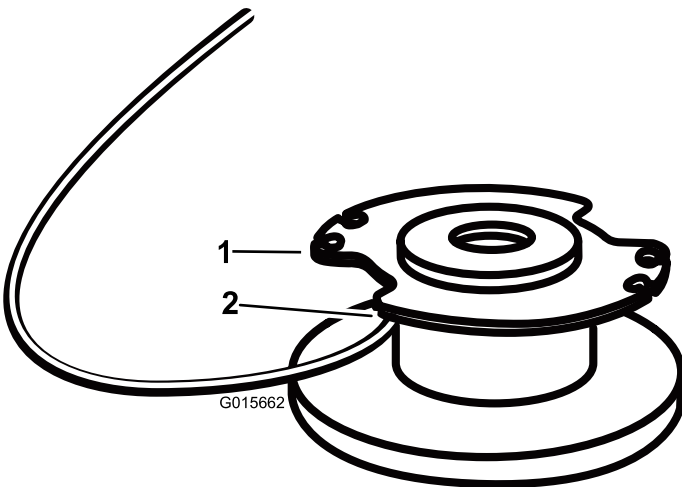

Figure 15
4. Insert the string into the anchor hole in the upper part of the spool (Figure 15). Wind the string onto the spool in the direction shown by the arrows on the spool.